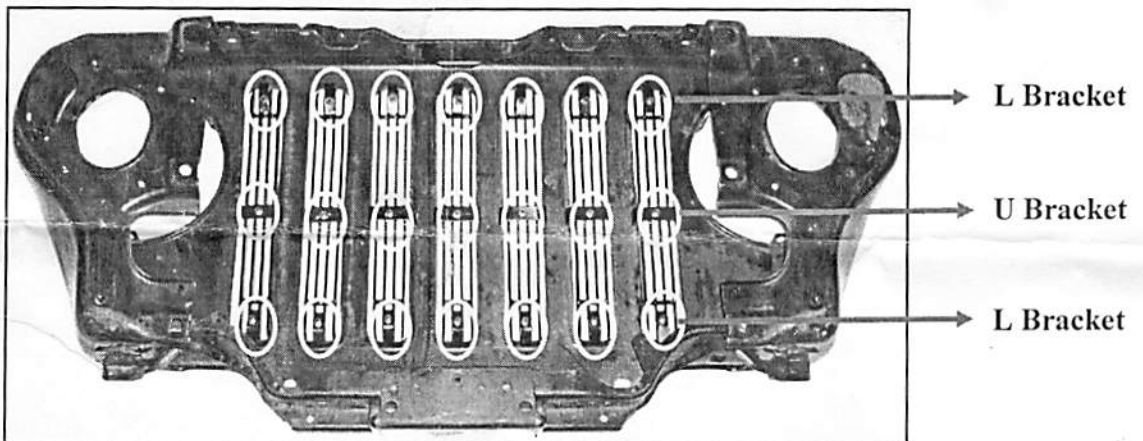

Figure 3 – All the billet grilles are installed
5. Loosely attach one the billet grille by holding an U bracket on the center, and L brackets on two sides behind grille shell and inserting Phillips screws (from the front) through the billet grille holes and brackets. Secure them with Flange Nuts provided (Figure3).